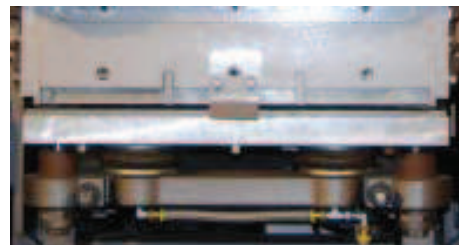

Figure 24
- Measure the distance from the top of the pallet table (with a pallet on it) to the bottom of the mold. Round up to the nearest 1/4". Add this amount of spacers to the pallet table spacers and adjust pallet table to correct setting. Figure 24